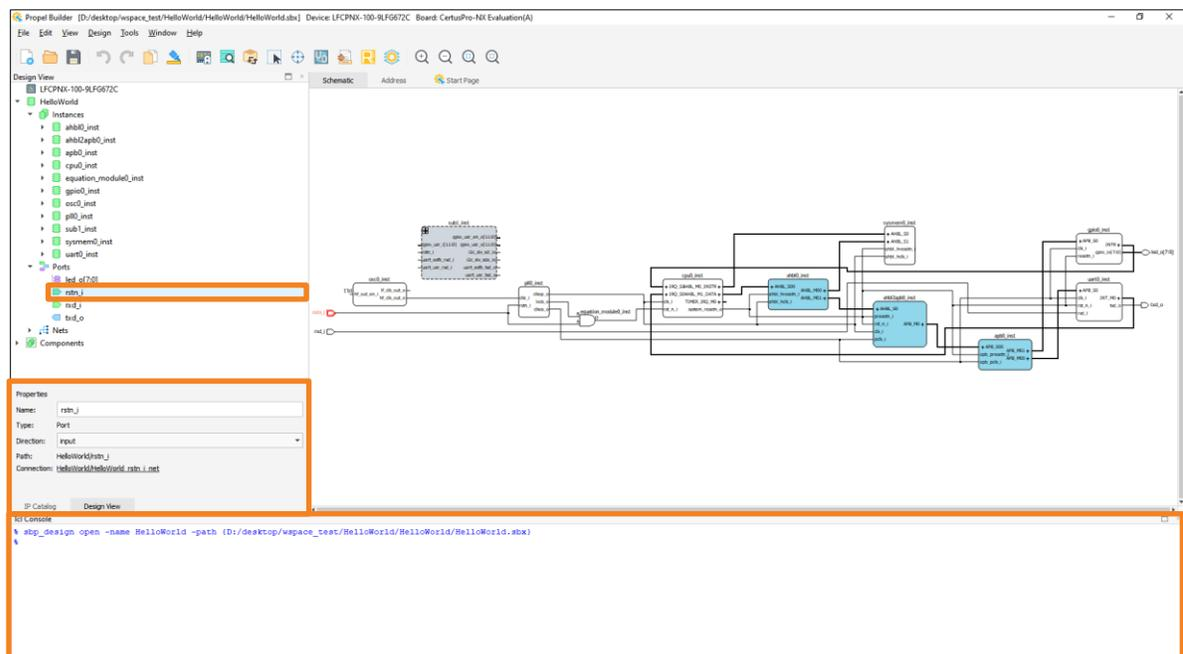

Figure 2.74. Properties of Port
- a. Click on a port, **Properties** window open (Figure 2.74).